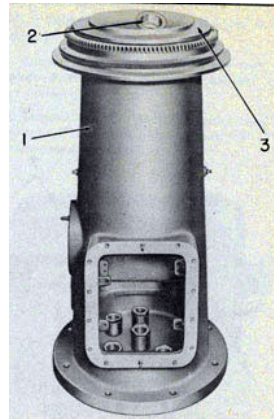

Figure 129-Assembly of Stand, Main Cable, Inner Bearing, and Training Stop Mechanism.
1. Take the director stand and place it on assembly platform or secure it to the floor. Be sure to fasten securely to prevent tipping after case has been attached. See figure 129.
2. Install main cable in the gland of the stand inner bearing. See figures 129 and 130.
3. Reassemble the inner bearing and training stop mechanism, place in stand, and secure to bottom plate. See figure 129.